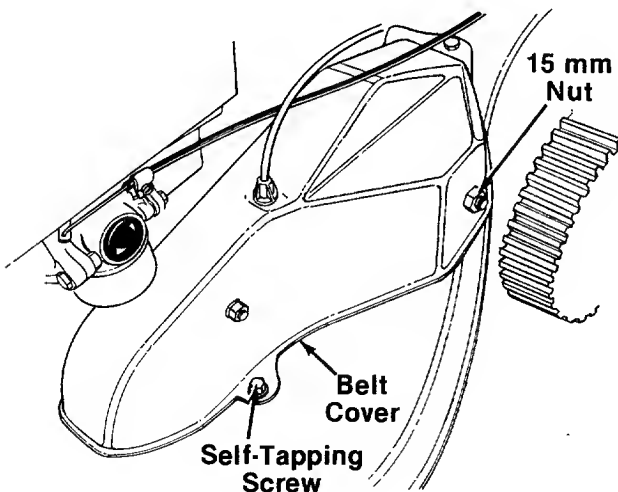

FIGURE 25.
4. Remove the 15 mm nut which holds the three speed hub to the belt guard. See figure 25.
5. Remove the three screws which hold the belt guard (and idler assembly). See figure 25.